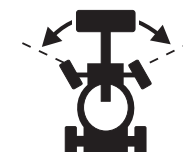

Figure 2
- ⦿ Result: The drive enable indicator light should come on and remain on while the primary boom is anywhere in the range shown in figure 2.